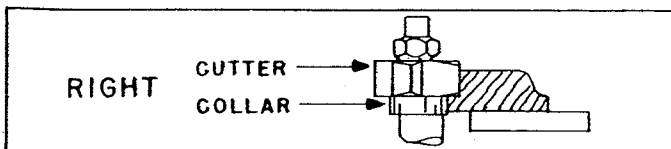
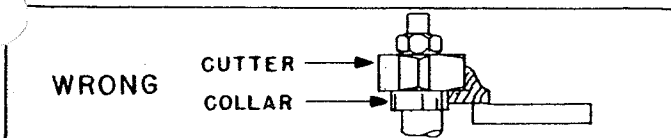

Fig. 29
Fig. 30
4. The work **MUST** be fairly heavy, in proportion to the cut being made as shown in Fig. 29. Under **NO** circumstances should short work of light body be shaped against the collars as shown in Fig. 30.